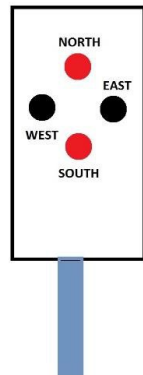

Fig. 1 Autoguider Switch Test Box
4.22 FOR EACH of the following buttons (refer to Fig. 1) RECORD a representative sample of the displayed Frequencies. PRESS the PAUSE and RESUME button on the Terminal program AS NECESSARY to view each value and record the value. NOTE that the OPEN position is NO BUTTONS PUSHED.